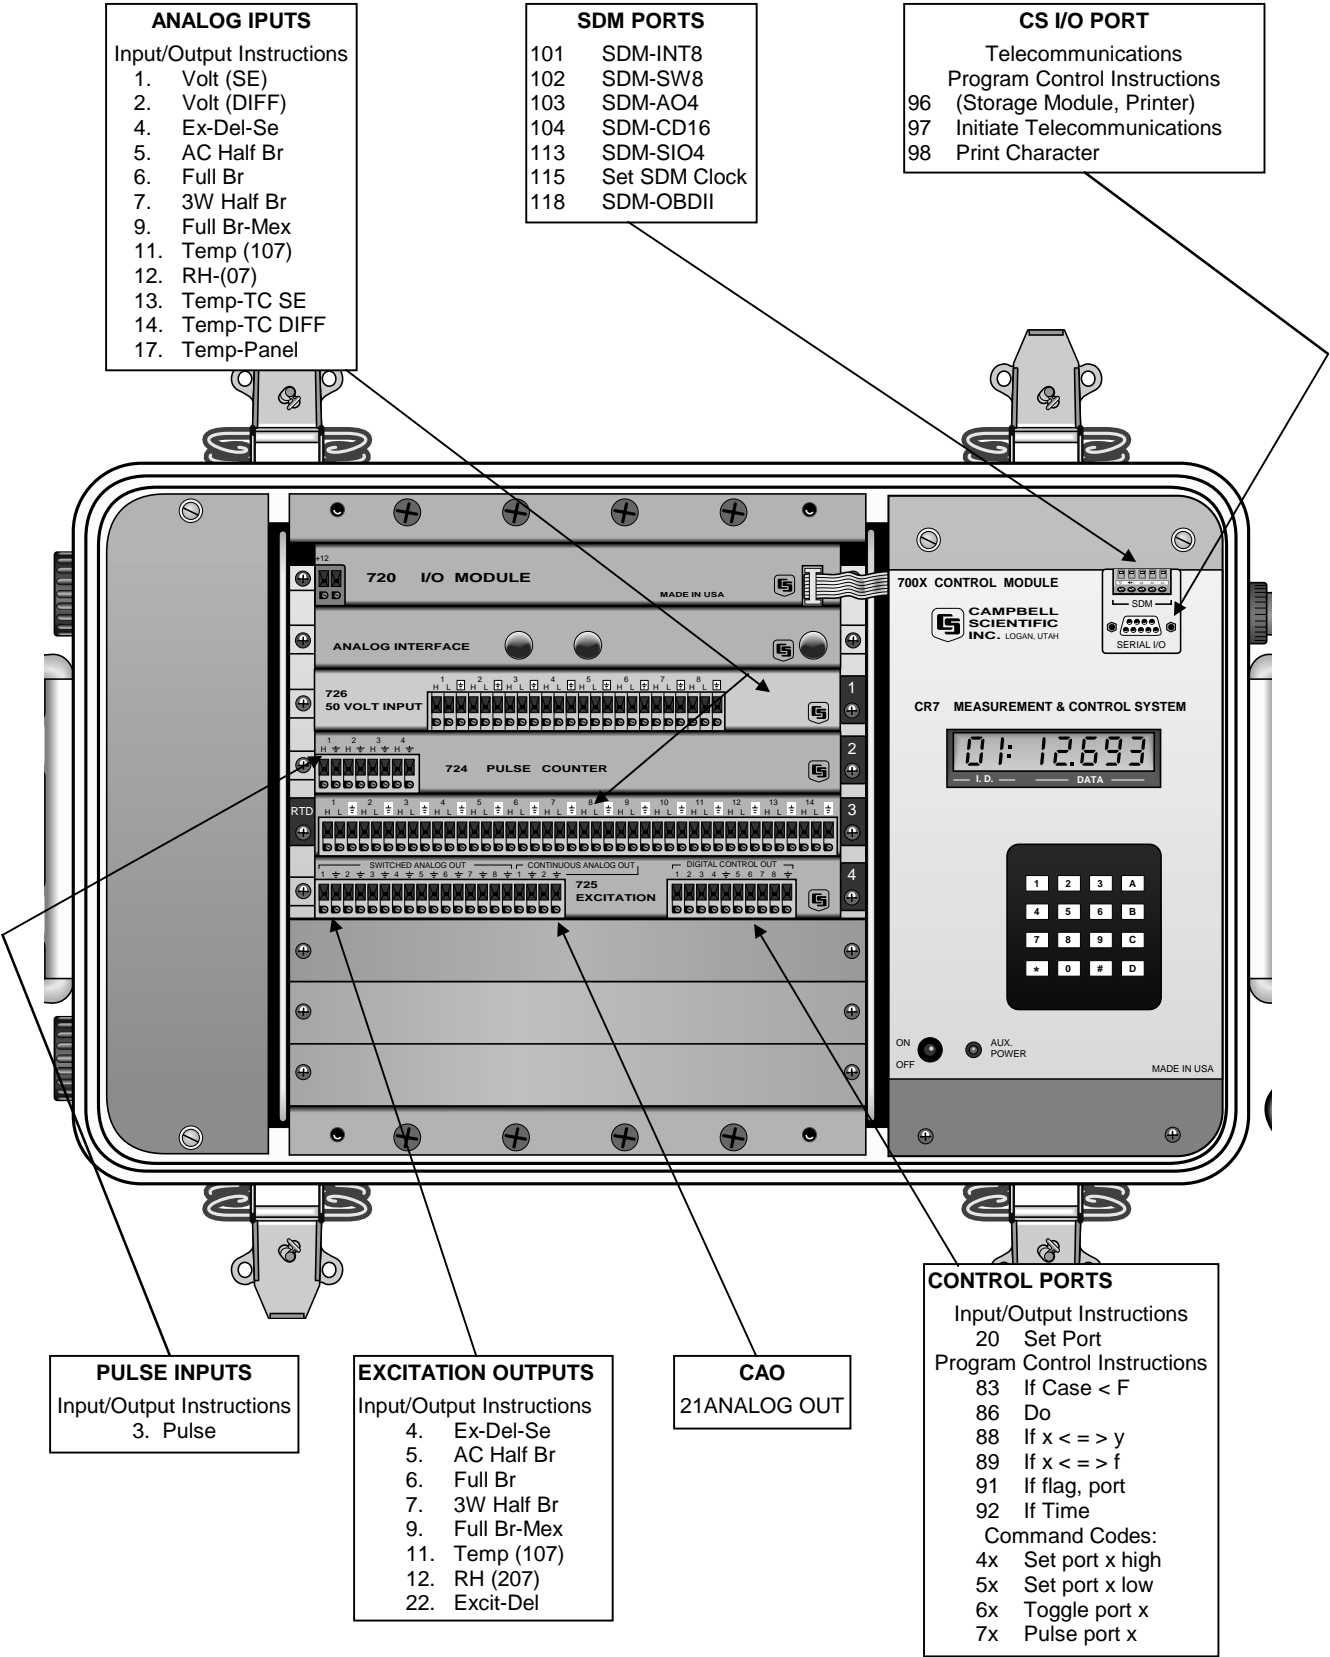

FIGURE OV1-2. CR7 Wiring Panel and Associated Programming Instructions
1. **INPUT/OUTPUT INSTRUCTIONS** (1-26, 101-104, Section 9) control the terminal strip inputs and outputs (the sensor is the source, Figure OV1-2), storing the results in Input Storage (destination). Multiplier and offset parameters allow conversion of linear signals into engineering units. The Control Ports and Continuous Analog Outputs are also addressed with I/O Instructions.